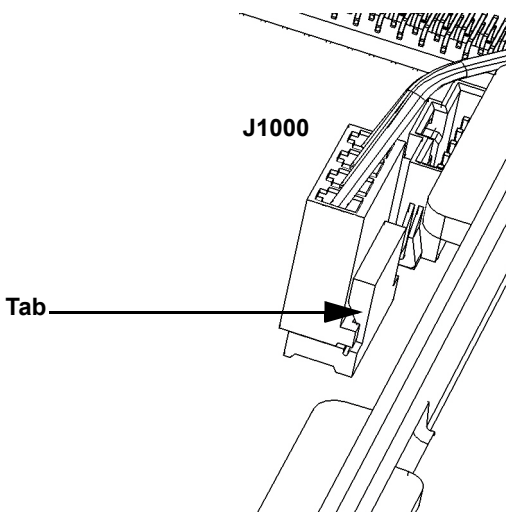

Figure 4-1. Connector Locking Tab
- 1 Using a medium slot-head screwdriver, gently push back the 4-pin connector lock tab on the motherboard end of the jumper cable that connects between the Motherboard (J1000) and the PowerSupply board (J2). Refer to Figures 4-1 and 4-2.